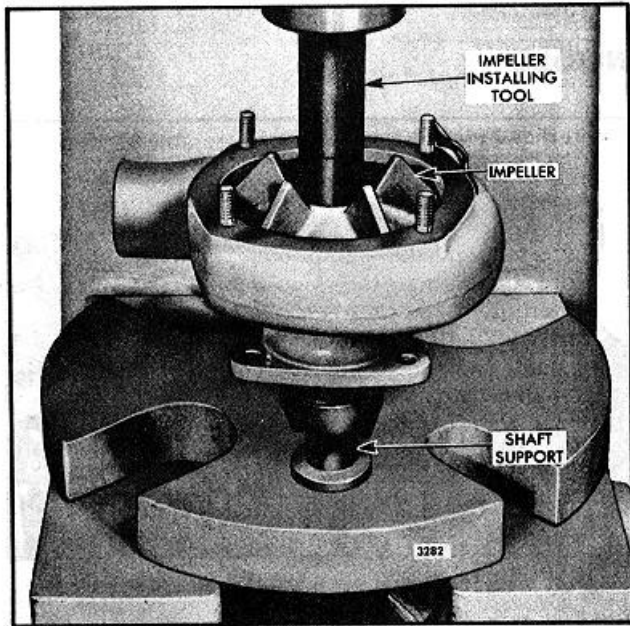

Fig. 7 - Installing Pump Impeller
7. Support the bearing end of the shaft on the bed of an arbor press. Then press the impeller on the shaft using tool J 22437 (Fig. 7). Do not press against the outer race of the bearing. The distance between the end of the shaft and the face of the impeller hub is .031"-.033", with the bearing held against the shoulder in the pump body.